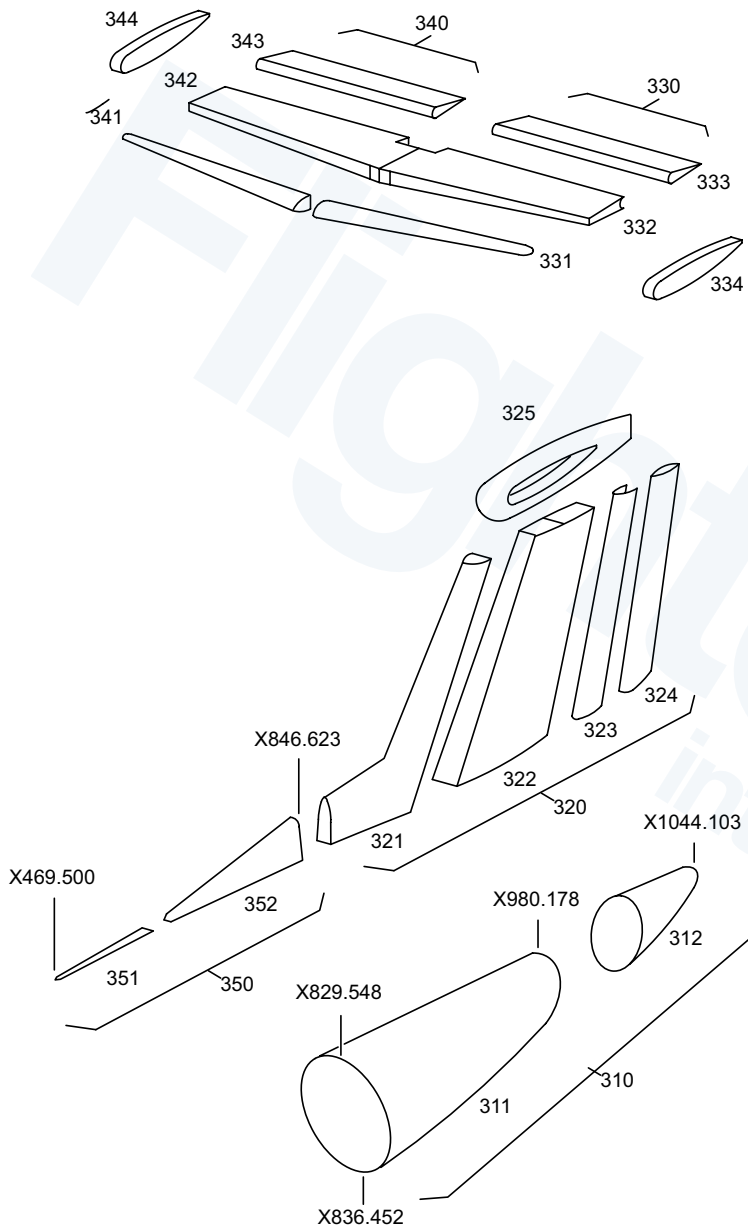

Figure 6-5. Major Zone 300 (Empennage) Sub-Zone
- Figure 6-5. Major Zone 300 (Empennage) Sub-Zone.